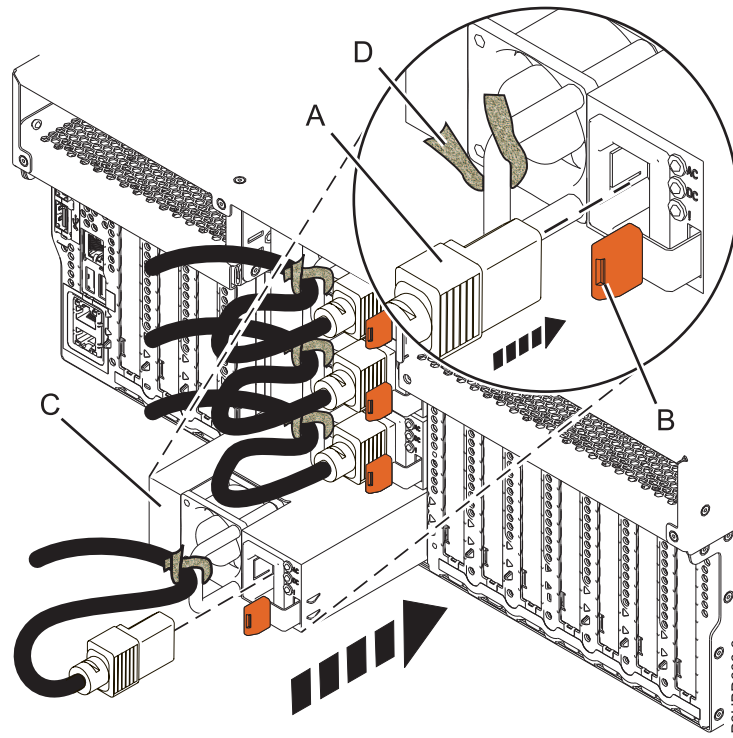
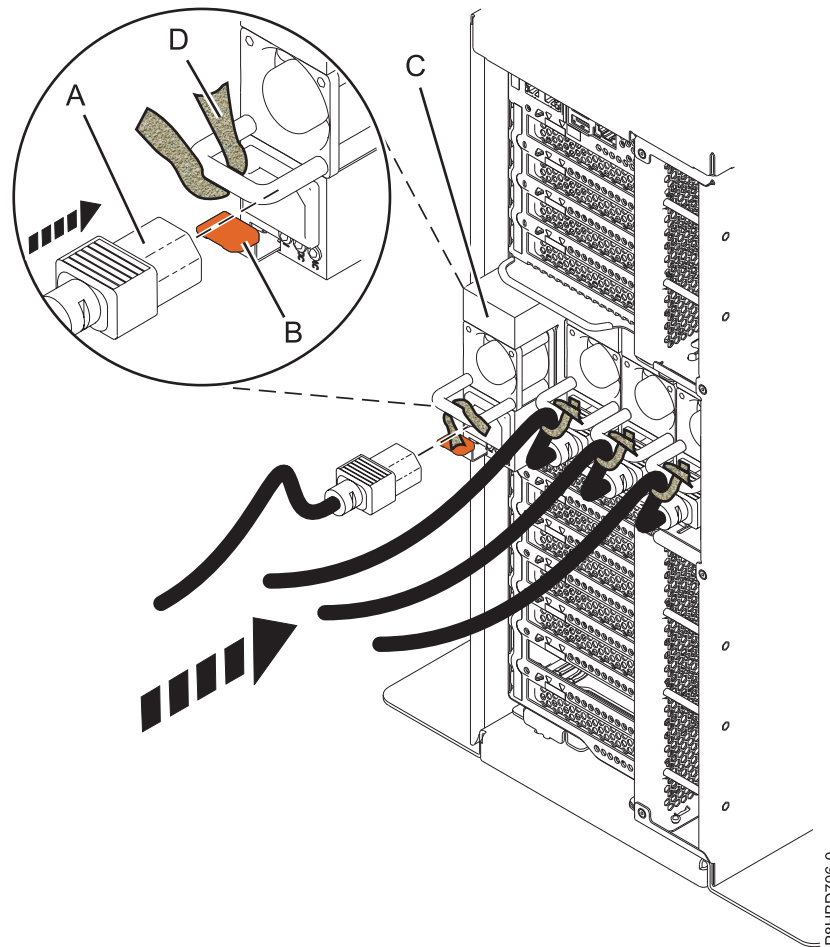

Figure 9. Replacing a power supply in a rack-mounted system
Figure 10. Replacing a power supply in a stand-alone system
3. Align the power supply (C) with the bay and slide the power supply into the system until the terracotta latch (B) locks in place, as shown in Figure 9 on page 11 for a rack-mounted system and Figure 10 on page 12 for a stand-alone system.
4. Connect the power cord (A) to the power supply (C), as shown in Figure 9 on page 11 for a rack-mounted system and Figure 10 for a stand-alone system.
5. Use the hook-and-loop fastener (D) and tie the power cord to the power supply handle, as shown in Figure 9 on page 11 for a rack-mounted system and Figure 10 for a stand-alone system.